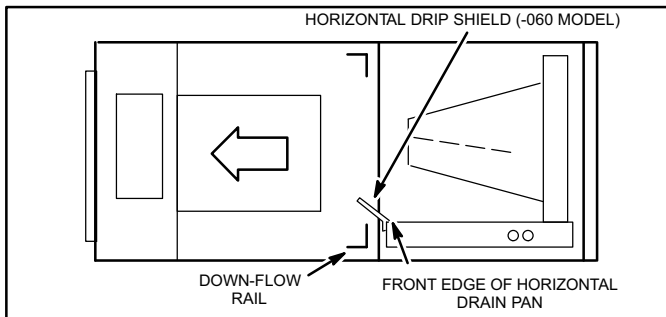

Figure 5. Left-Hand Discharge Configuration
10. Install the horizontal shield (-060 model) on the front edge of the horizontal drain pan as illustrated in figure 5 on page 6.